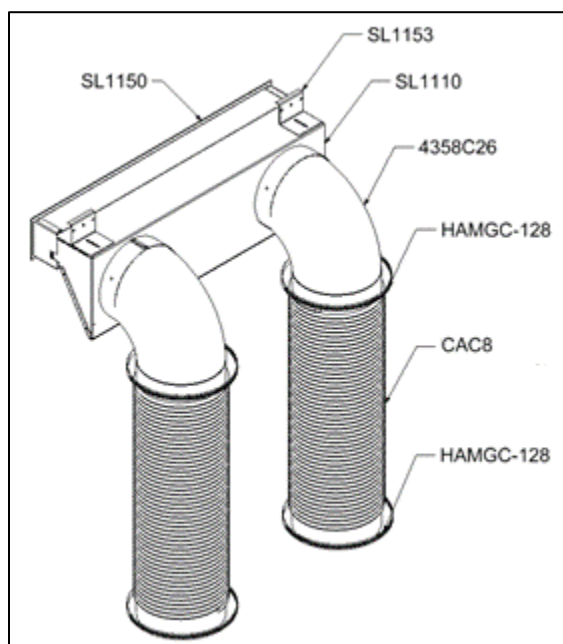
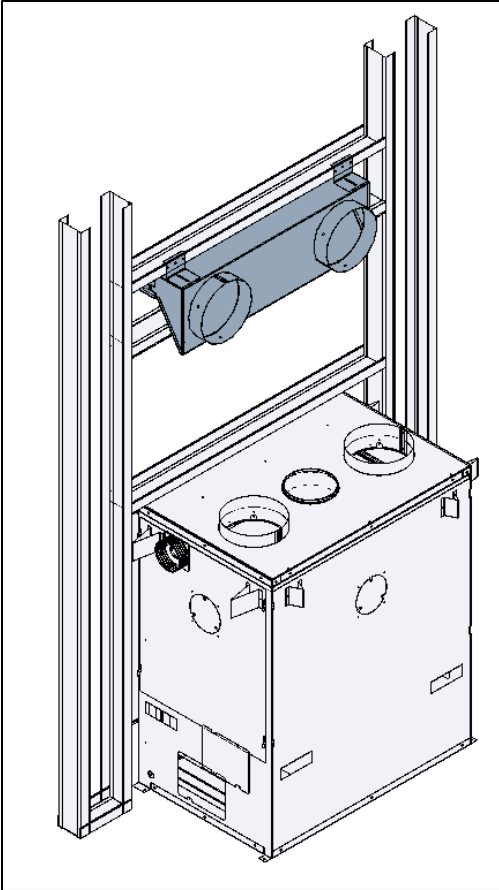
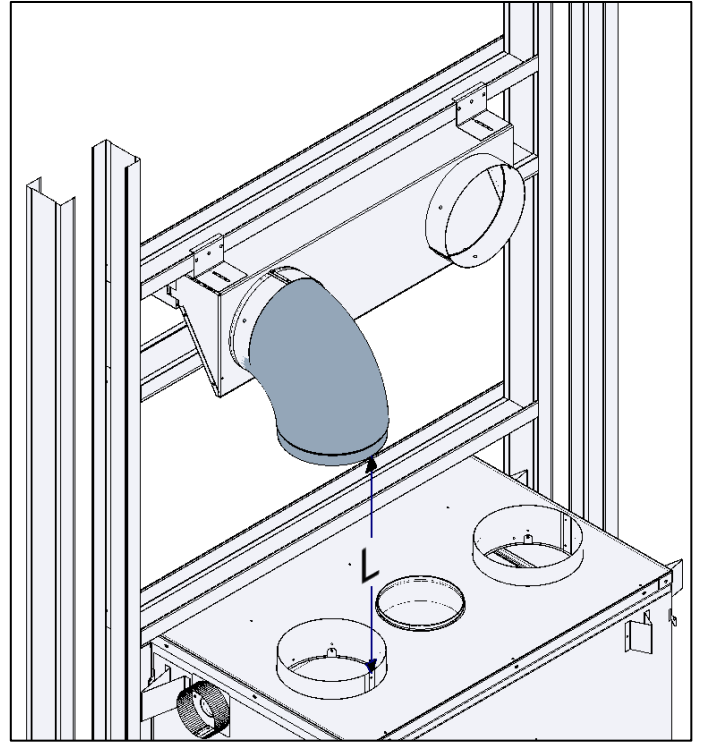
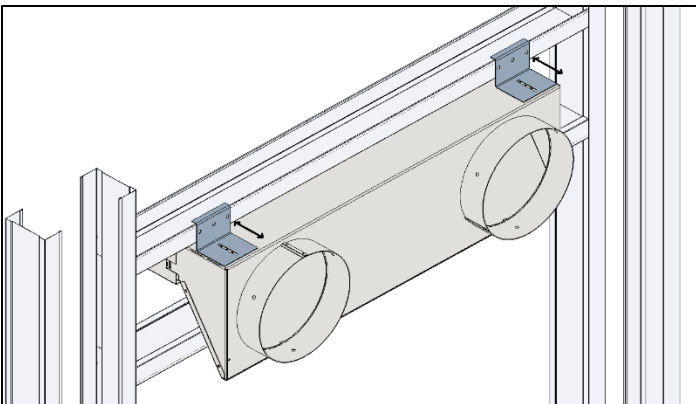

Figure 3-25: LV32 Assembly Diagram
Figure 3-26: Linear Duct/Louver Adapter Installation
Figure 3-28: Elbow Temporarily Installed on Linear Duct/Louver Adapter
Figure 3-27: Adjustable Brackets of Linear Duct/Louver Adapter
The clean face surround comprises no louvers; however, an intake into the chase and outtake through gravity ducts is required for this surround configuration. The instructions below describe the installation of the intake openings and the single linear front gravity ducts/outtakes. Please note that the SUPREME LV32 kit is required for the Gravity Kit installation with a single linear front louver (Figure 3-25).
1. Install the linear duct/louver adapter (item SL1110 of Figure 3-25 and Table 3-7) onto the framing of the single linear front louver (Figure 3-26). The brackets of the SL1110 (SL1153 of Figure 3-25) are adjustable to accommodate different wall finishing materials (Figure 3-27).
2. Temporarily install one of the 90° elbows (4358C26 of Figure 3-25 and Table 3-7) on the linear duct/louver adapter (Figure 3-28) and measure the distance L indicated in Figure 3-29.
4. Add 3 inches to the distance L and cut the two CAC8 ducts (Figure 3-25 and Table 3-7) to that length.